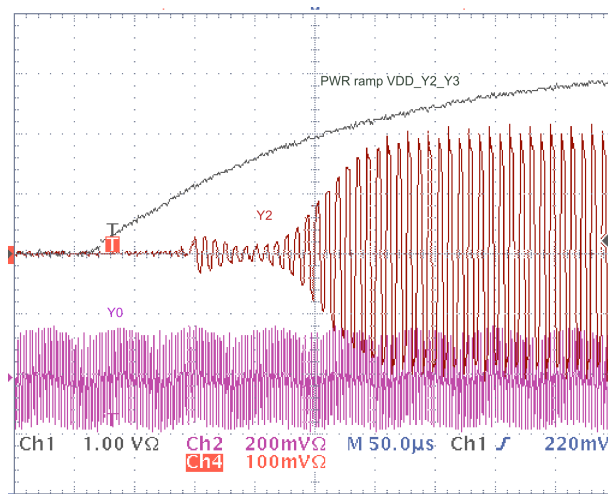

Figure 58. Sequencing the Output Turnon Through Sequencing the Output Supplies Output Y2 Powers Up While Output Y0 is Already Running
2. **Output Power supply domain control:** An even easier scheme might be to connect the clock output power supply VDD_Yx to the corresponding DSP input clock supply domain. In this case, the CDCM6208 output will remain disabled until the DSP rails ramps up as well. Figure 58 shows the turnon behavior.